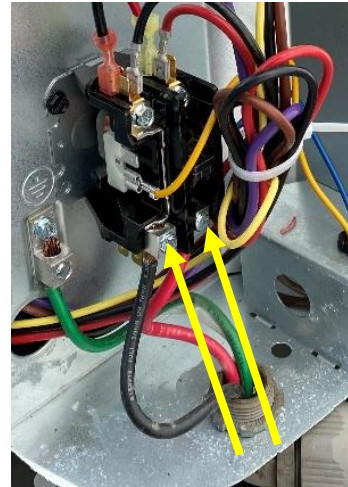

Figure 8
2. IMPORTANT: The second style has a black colored module that has wires going through a hole in the module. These systems are discussed in Section 1: Comfort Alert and Core Sense Modules see page 3 which includes pictures of the modules. Note: See page 4 figure 8 for a picture of a contactor that would be present in a system with a compressor monitoring module.
Bluetooth models must be connected to power to disable the starting delay before installation. Turn off the breaker to the air conditioner. Connect the black and white EasyStart wires to the line input side of the contactor indicated by the yellow arrows in figure 8. Tape or wire nut the EasyStart brown and orange wire ends so they cannot make electrical contact with anything. Turn on the breaker to the air conditioner.